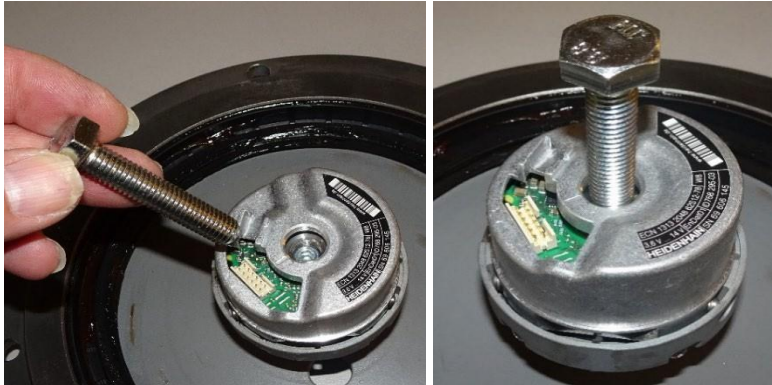

Figure 23
- Insert a M10 bolt into the encoder housing. See Figure 23.
7. Insert a M10 bolt into the encoder housing. See Figure 23.